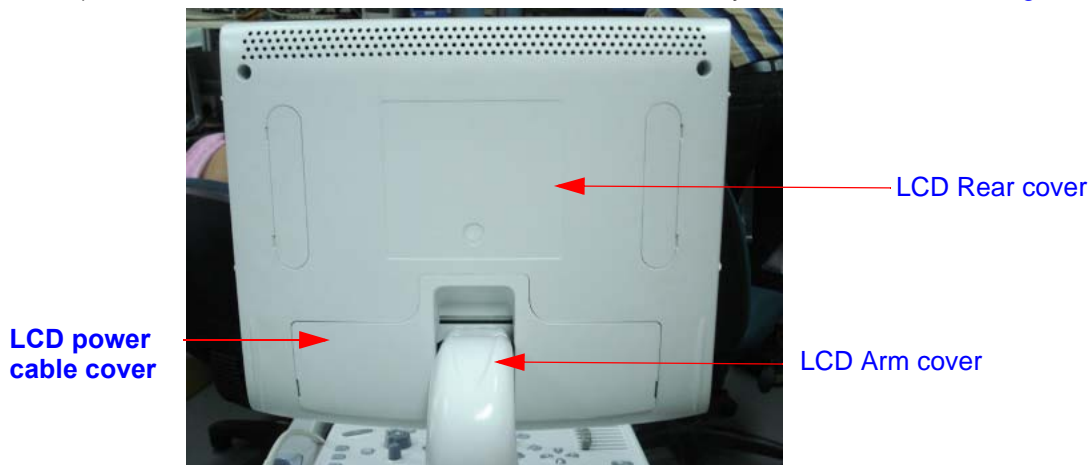

Figure 8-1 LCD rear cover
- 2) LCD monitor rear cover of LOGIQ iM/LOGIQ iM Basic system as shown below Figure 8-1 on page 8-4